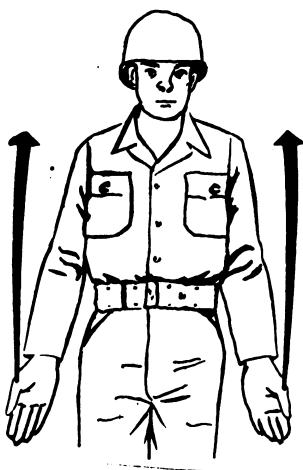

Figure 5. Move back.
e. To indicate move back, have arms by sides, palms facing forward; sweep arms forward and upward repeatedly to shoulder height (fig. 5).